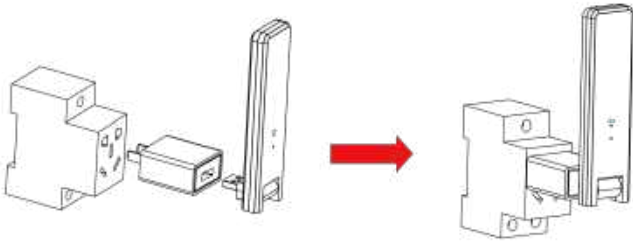

Figure 1
a. Connect the DTU to the adapter and plug it into the wall socket. (Figure 1)